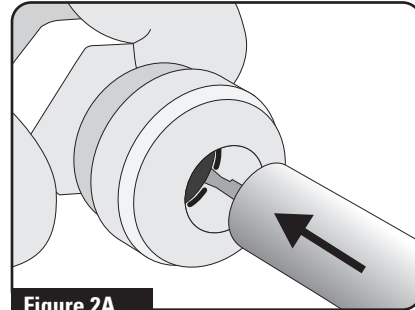

Figure 2A
- 3) Verify a positive connection by attempting to pull the tubing out of the socket. No more than 1/16" outward movement should occur, as the tubing and grip collar move slightly away from the front face of the fitting's body (this is normal, acceptable movement). If there's excessive tubing movement or if the tubing comes completely out of the socket, repeat all steps. Verify a positive seal by pressure-testing the system. If there is any leakage, remove the fitting, (as described in steps A through D below) inspect the fitting's socket for debris and repeat all steps. **See Figures 2A and 2B:**